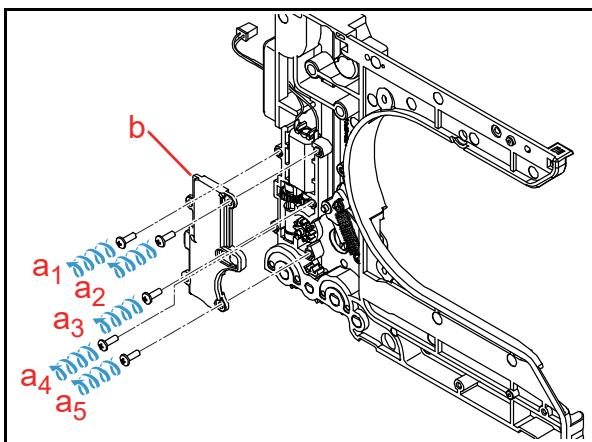

**Figure 4-30** Flap Motor Harness Assy. Removal (RT Frame Unit) 3
3. Remove the Flap Motor Harness Assy. (Figure 4-30 a).